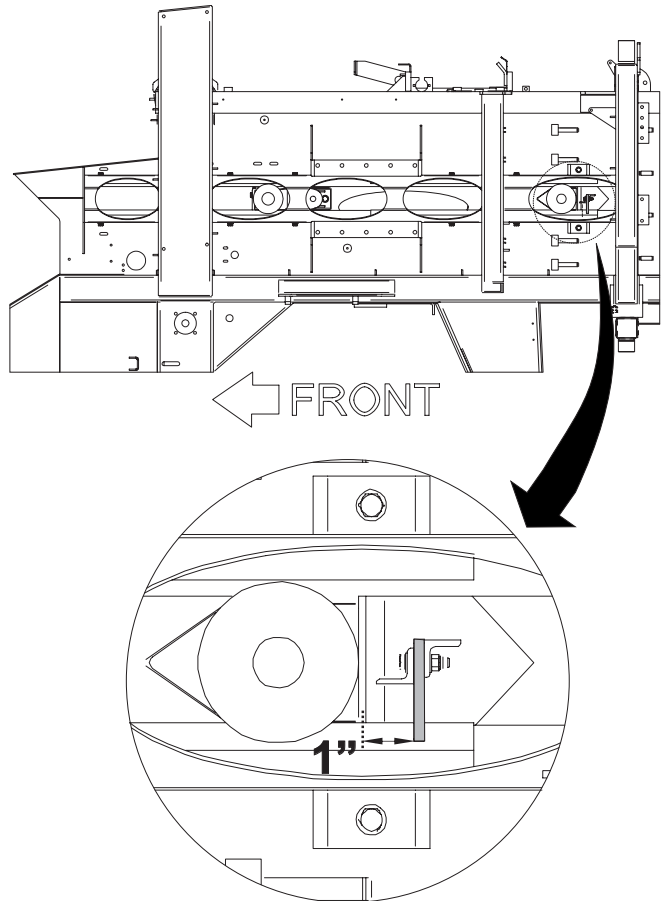

Figure 103 - Plunger Return Mark
5. Mark the location of the plunger fully extended. Also mark 1 inch forward of this position (see Figure 103).
10. Noting the plungers stopping position in relation to the 1" mark forward of full extension (see Figure 103) move the LS-5 switch correspondingly. The LS-5 switch may be moved 1". It is extremely critical for the knotting process that the plunger travel its full stroke. Short stroking of the plunger will result in mis-ties, and if the plunger travels too far it effects the quality of the bale.